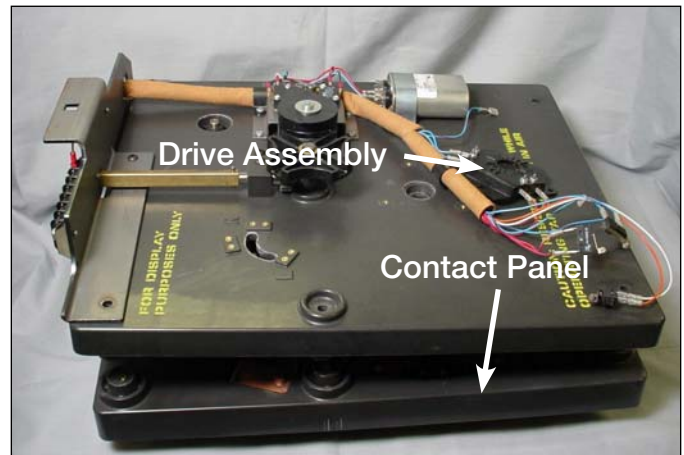

Figure 15.
8. Lift the front drive assembly off of the contact assembly and set aside. See Figure 15